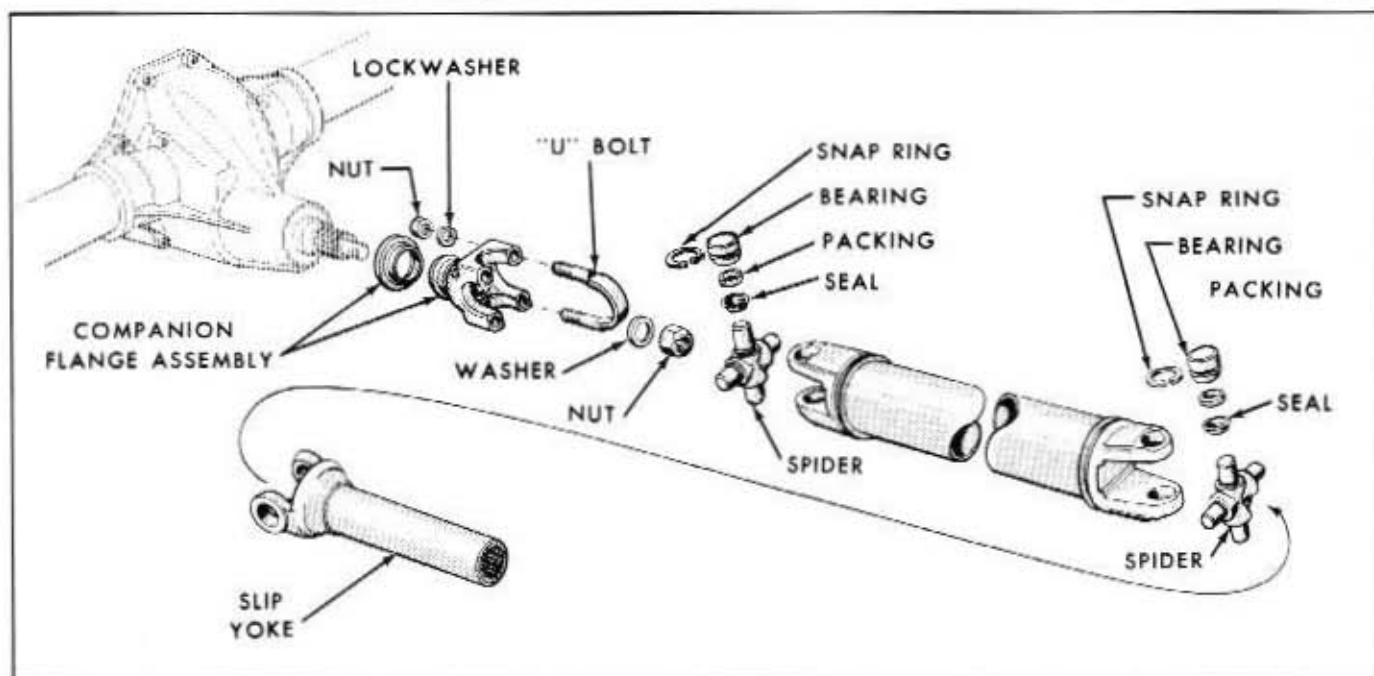

Fig. 4-4—Drive Shaft and Universal Joint Assembly—(60C-805)
through the drive shaft. The drive line is composed of a straight, tubular, balanced drive shaft, the attaching flanges and the universal joints. The rear universal joint is bolted to the companion flange of the drive pinion shaft. The front universal joint and the transmission output shaft are splined. This allows enough drive line movement to compensate for any rotation of the rear axle assembly during acceleration or deceleration. A typical drive shaft assembly is shown in figure 4-4.
1. Refer to figure 4-4. Disconnect the rear "U" joint from the drive pinion flange. Pull the drive shaft toward the rear of the car until the front "U" joint yoke clears the transmission extension housing and output shaft. Install the extension housing seal driver in the seal to prevent transmission lubricant leakage. Mark the needle bearing cups, spider bearing journals, and universal joint yokes so the parts may be later identified and replaced in their original position if their condition proves satisfactory.